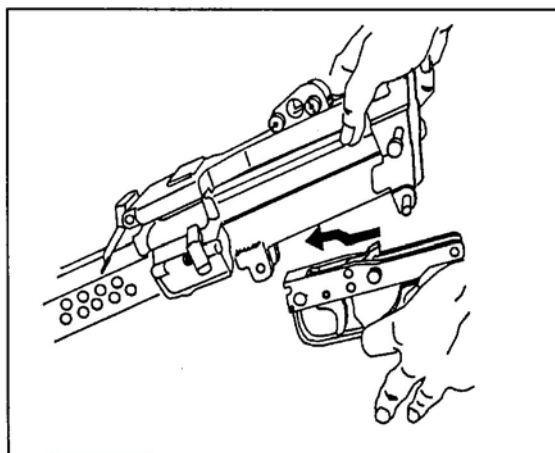

Figure 27. Replacement of trigger mechanism.
- (2) Hold the carrying handle with your right hand; pull the barrel rearward into the receiver. Push the carrying handle downward and release the barrel locking lever. Check to ensure the barrel locks into position.
- e. Replace the trigger mechanism (Figure 27).